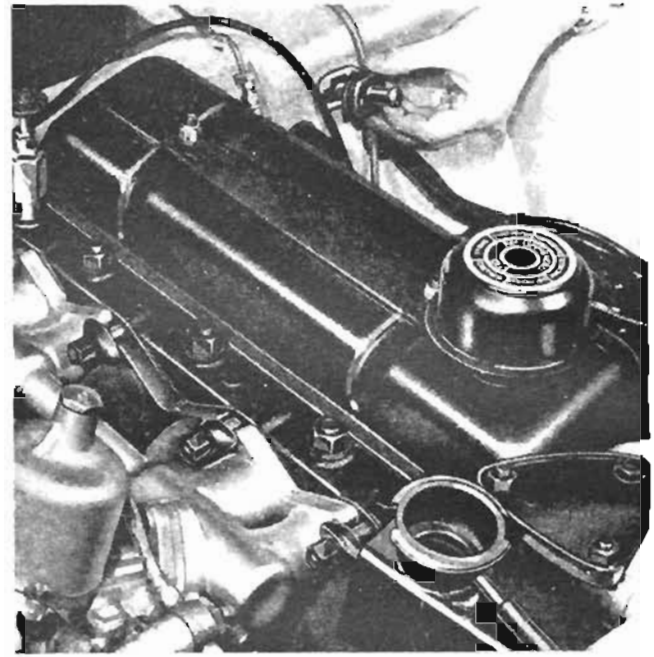

Fig. 9 Assembling Water Pipe Connectors
4. Install the taper threaded end of the female adapter (32) into the back of the pump housing. Attach the metal return pipe (29) to this adapter with the olive and union nut. Secure the pipe steady bracket to the rear of the two ignition coil fixing bolts.
5. Remove the two plates and rubber washers—one from each side of the bulkhead—after withdrawing the chamfer headed screws. Assemble the metal water pipe connectors (22) with their rubber washers (21) into these two apertures, securing each with two chamfer headed screws (Fig. 9).
6. Attach the two short lengths of rubber water hose (26) to the forward ends of these metal connectors, fitting the other ends of